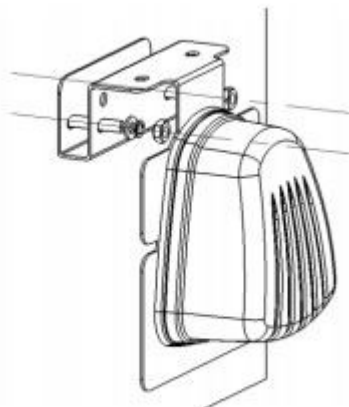

Figure 6.
3. Then assemble the bracket to the wall as shown in figure 6.